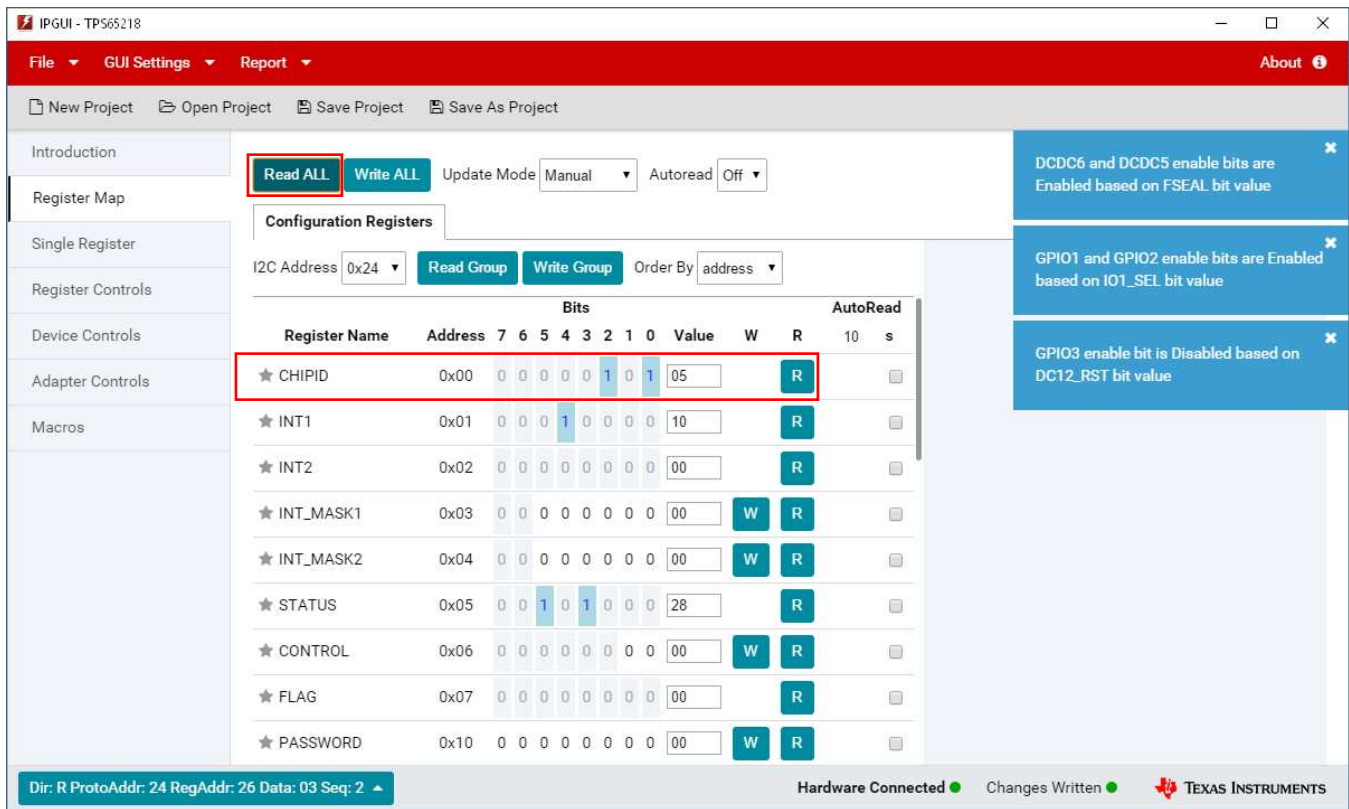

Figure 9. Successful Write Access to TPS65218D0 Notification
- Click the *Read All* button and verify that data has changed in the **CHIPID** register from 0x00 to 0x05. Verify that only blue notifications appear. Blue notifications are informational only and do not indicate an error has occurred. Figure 9.